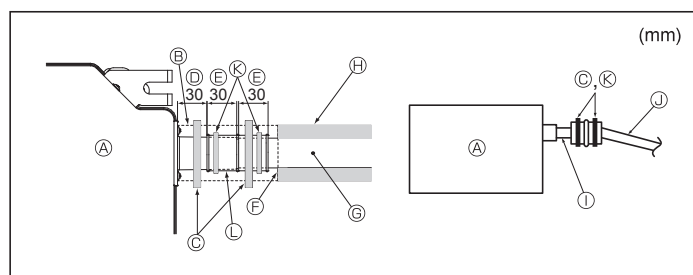

Fig. 6-2
- ① O. D. ø38 PVC TUBE for grouped piping (9 mm or more insulation)
1. Connect the drain socket (supplied with the unit) to the drain port. (Fig. 6-2)